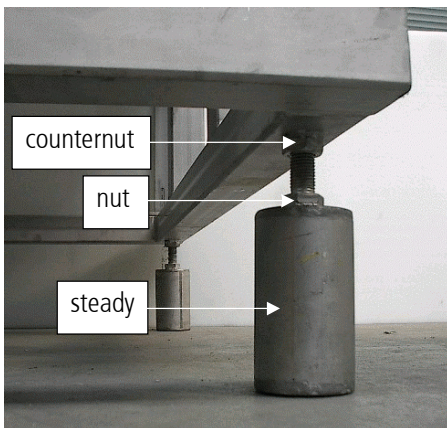

Figure 3-5: steady with adjusting screws
- Adjust the chamber high using the adjusting screws (refer to Figure 3-5) . Refer to the installation drawing.